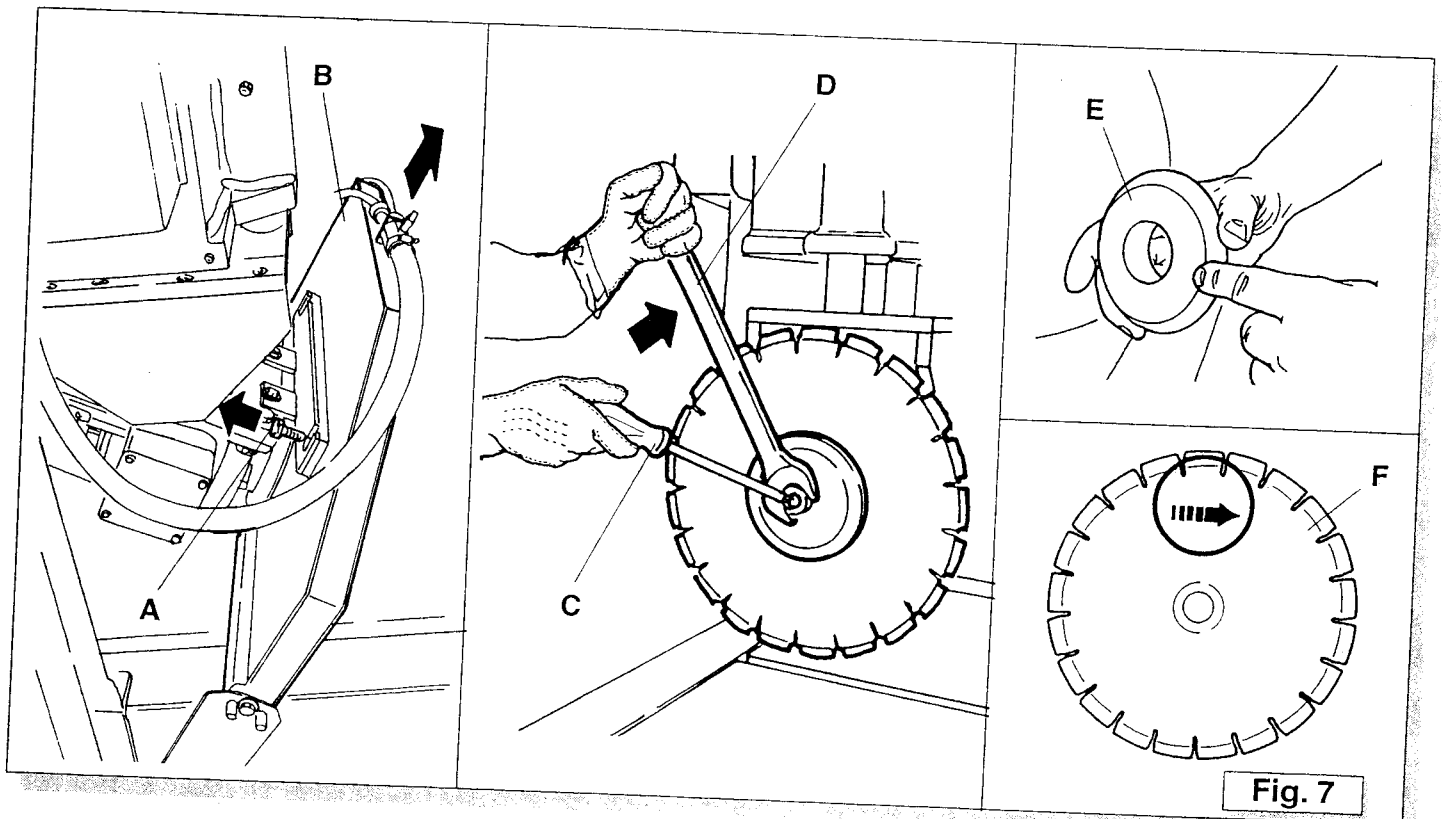

Fig. 7
1. Tilt the blade 45° and loosen the 2 screws **A** (Fig. 7) behind the blade guard with a 10mm wrench and remove the guard **B** (Fig. 7).
2. Hold the motor spindle **C** (Fig. 7) and unscrew the blade shaft nut (CW) clockwise using the 30mm wrench **D** (Fig. 7) supplied (only on FRS 51). For the FS-30 & 38, hold the motor shaft from turning with a 6mm hex key inserted into the back side of the motor and loosen the nut (CW) with a 19mm wrench.
3. Once the blade is removed, check the outer flange **E** (Fig. 7) and inner flange interior surfaces, and if needed, replace or clean them to remove any debris that might prevent the blade from properly seating inside the flanges.
Note: When using the thick-cored profile wheel on the FRS 51, do not use the outer flange **E** (Fig. 7).
4. Mount the new blade in the direction of the rotation arrow marked on the blade **F** (Fig. 7). It must be the same direction as the arrow on the blade guard. (clockwise from the front).
6. **Before using the machine be sure the blade guard is securely in place.** Re-install the blade guard **B** (Fig. 7) and securely tighten the 2 screws **A** (Fig. 7) using an M10 wrench.